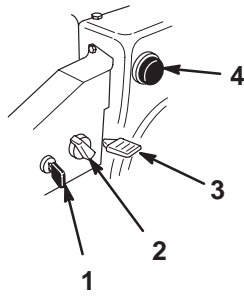

Figure 14
- **Ignition Switch** (Fig. 14)—Insert the key before starting the engine. To stop the engine, remove the key.
- **Choke** (Fig. 14)—Rotate the choke to the **On** position to start a cold engine. As engine warms up, gradually rotate the choke counterclockwise to the **Off** position.
- **Throttle** (Fig. 14)—Move the throttle upward to increase the engine speed; move it downward to decrease the engine speed. Move the throttle to the **Stop** position to stop the engine.
- **Primer** (Fig. 14)—Press the primer to pump a small amount of gasoline into the engine for improved cold-weather starting.
2. Remove the key from the ignition switch (Fig. 14).
3. Pull the choke knob off (Fig. 14).
- Rotate the choke (Fig. 14) to the **On** position.
- Insert the ignition key (Fig. 14).
- Cover the hole in the center of the primer (Fig. 14) with your thumb and slowly push in the primer 3 times, pausing a moment between pushes.
- After the engine starts, immediately rotate the choke (Fig. 14) to the 3/4 position. As the engine warms up, rotate the choke to the 1/2 position. When the engine warms up sufficiently, rotate the choke to the **Off** position.